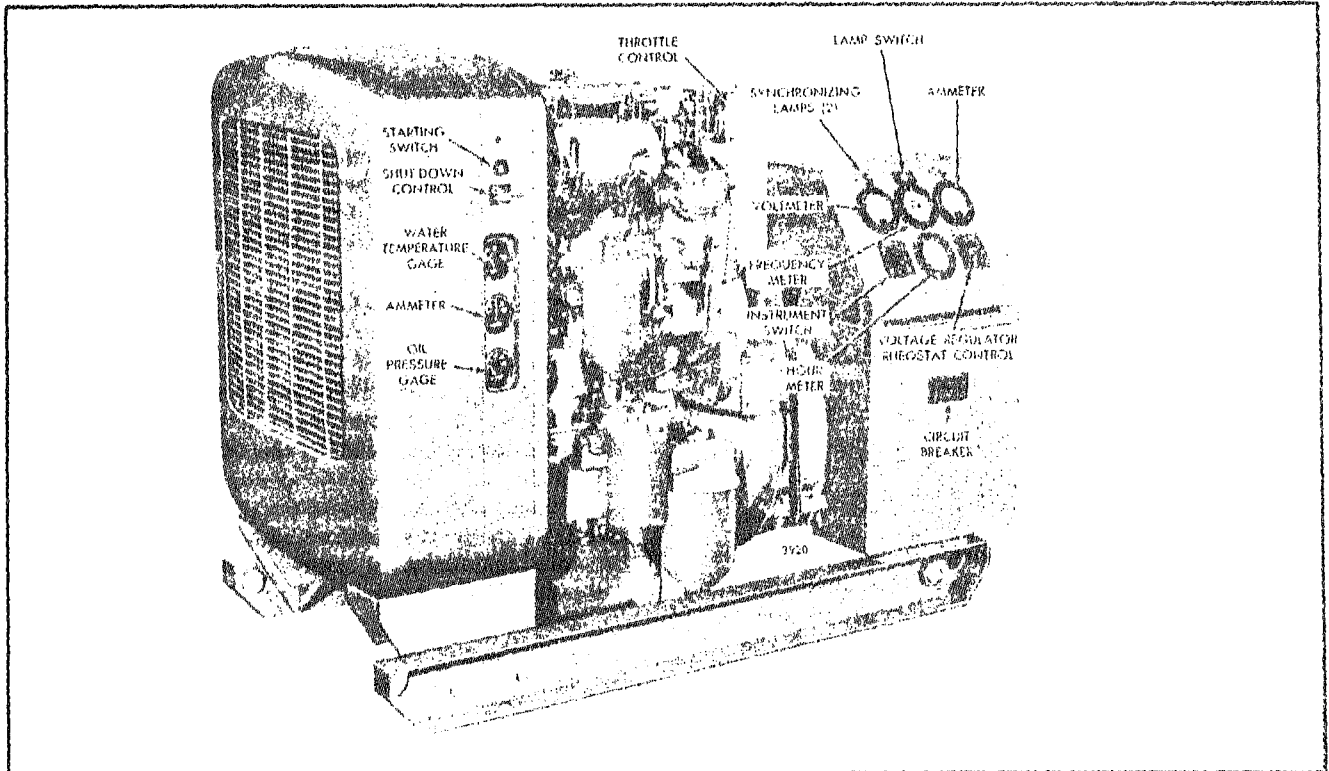

Fig. 1 - Location of Controls on Power Generator Set
These instructions cover the fundamental procedures for operating an alternating current power generator set (Fig. 1). The operator should read these instructions before attempting to operate the generator set.
4. Refer to Fig. 1 and place the circuit breaker in the **off** position.
Press the throttle button and turn the throttle control (Fig. 1) counterclockwise to a position midway between **run** and **stop**. Then press the starting switch firmly.
2. Check the voltmeter (Fig. 1); the voltage must be the same as the line voltage. Adjust the voltage regulator rheostat control if the voltages are not the same.